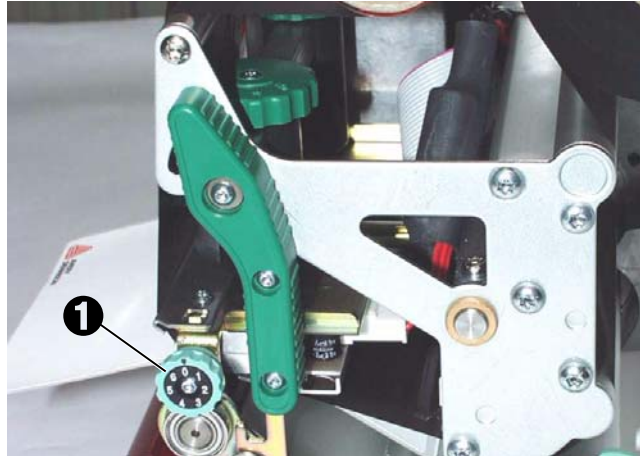

Fig. 1: The adjusting wheel for the printhead support.
2. Push both ribbon rolls onto the ribbon reels as shown (Fig. 1).